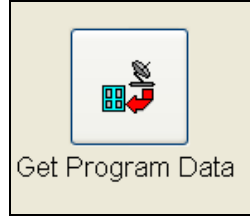

Figure 16.9.3D
2. Next click on the **Get Program Data** icon to the right of the screen (Figure 16.9.3D).